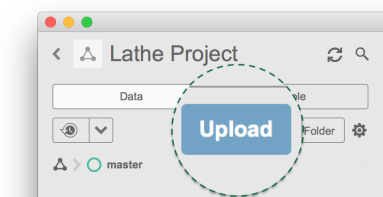

FIGURE 1.5:
- Click **Upload**, Figure 1.5, and navigate to and select the 3D part file you downloaded from the MakerSpace Wiki. It should appear with a preview in your Lathe Project folder.